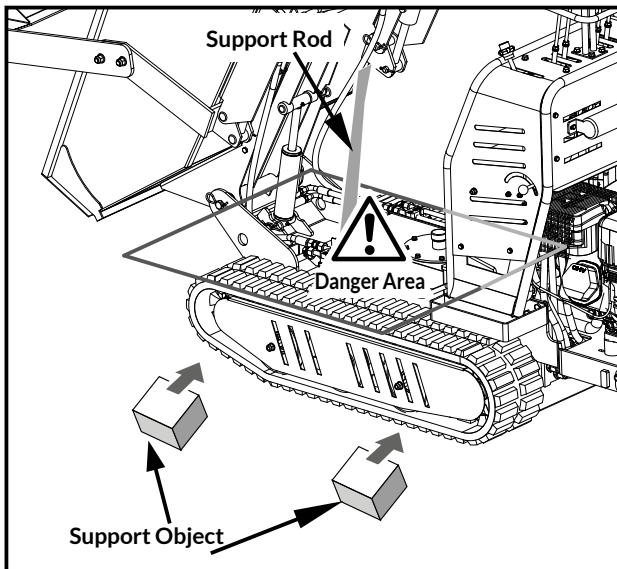

Figure 20
Replacing tracks (figures 20 - 22)
2. Lift the machine and set it on blocks or supports rated for the weight of the machine so that the tracks are approximately 10 cm off the ground. See figure 20.